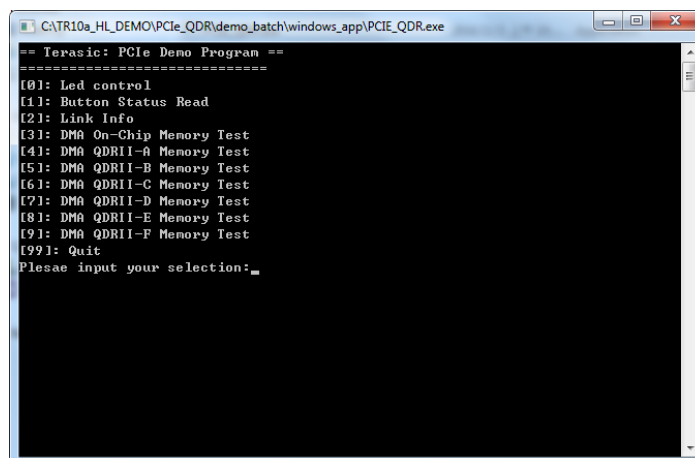

Figure 7-16 Screenshot of Program Menu
6. Goto windows_app folder, execute PCIE_QDR.exe. A menu will appear as shown in **Figure 7-16**.